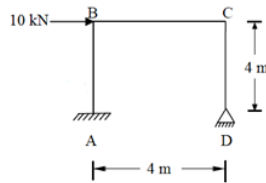

Figure 10
- (b) Analyse the portal frame shown in Fig.10 using slope deflection method and draw the bending moment diagram and deflected shape of the frame. Take EI constant for all the members [7M]